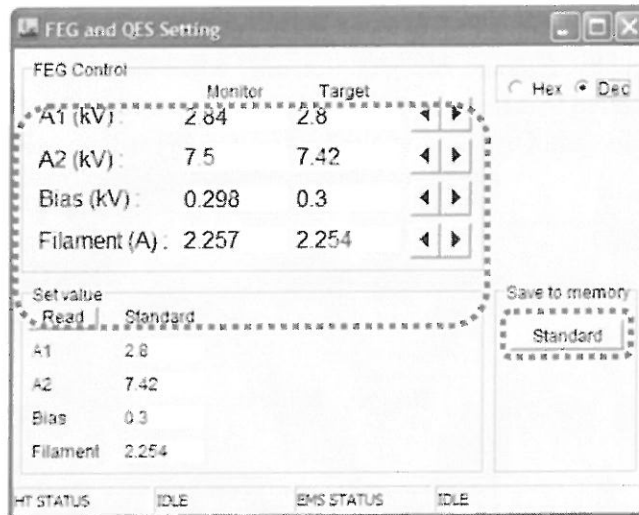

Fig. 5.20 FEG and QES Setting window
3. Set the emitter (filament) temperature to 1800 K (Fig. 5.20).